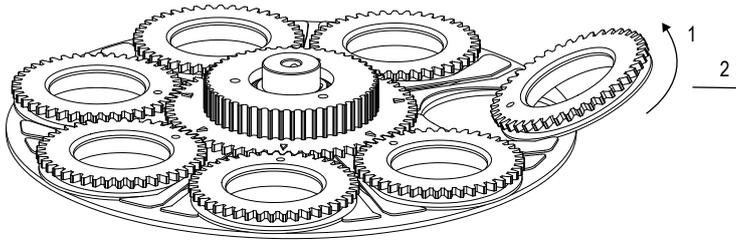

Figure 28: Gobo holder removal
3. Release the gobo holder by pushing the holder down, and slide it out from the gobo wheel (figure 28). Do not touch the gobo.